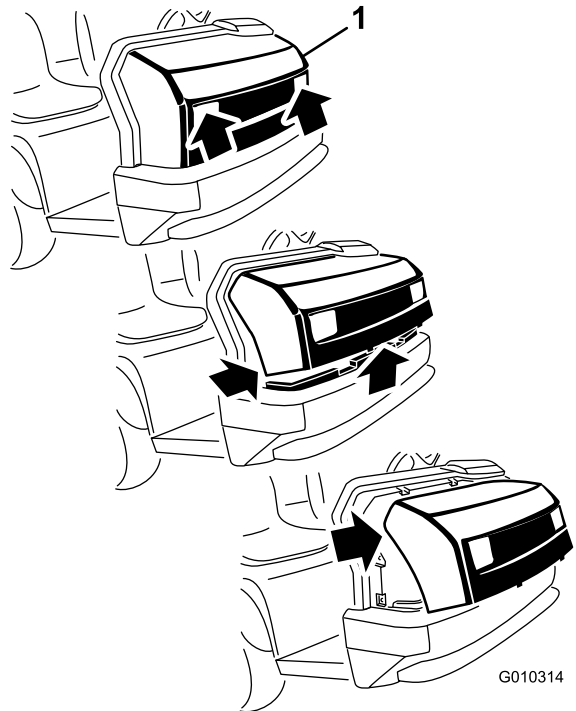

Figure 1
6. While grasping the hood in the headlight openings, lift up on the hood to release the lower mounting tabs from the slots in the bumper (Figure 1).
7. Pivot the bottom of the hood upward until you can pull the top mounting tabs from the frame slots (Figure 1).
8. Pivot the top of the hood forward and unplug the wire connectors from the headlights (Figure 1).